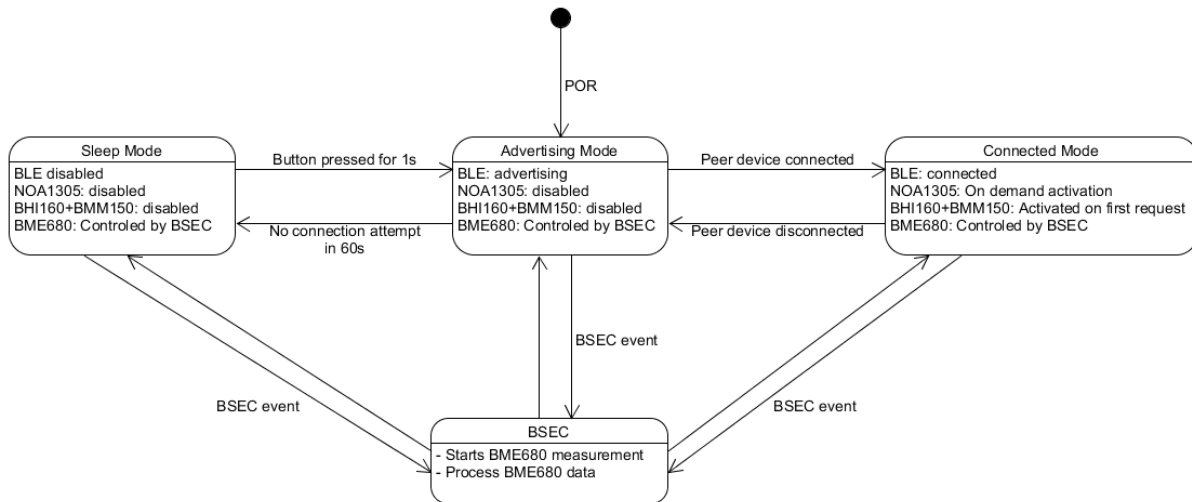

Figure 27.
20. Low power firmware – block diagram. The diagram in Figure 27 depicts detailed high level operation of ultra-low power firmware.